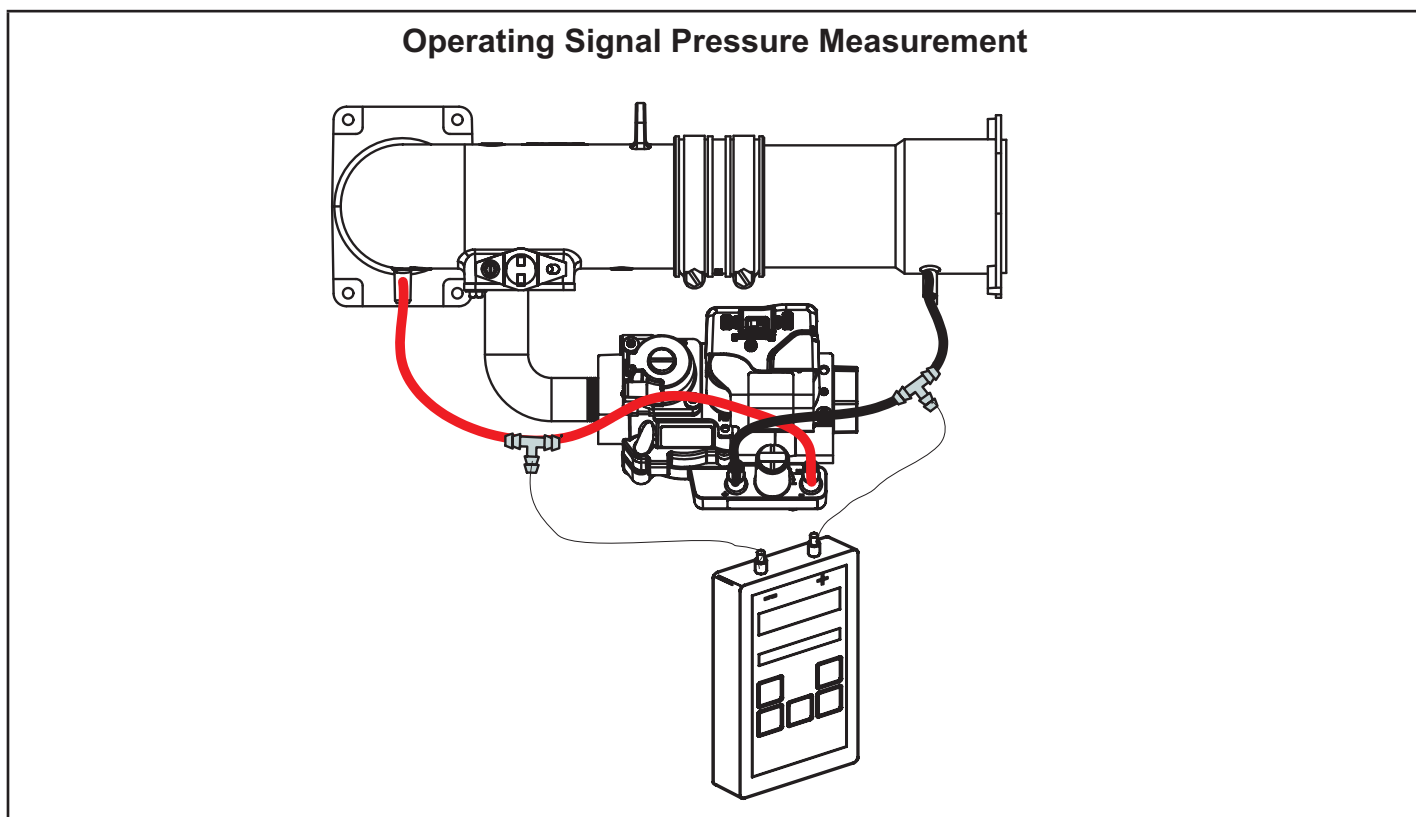

FIGURE 48
- 3 - Install hoses and meter as shown in FIGURE 48 for signal pressure measurement.